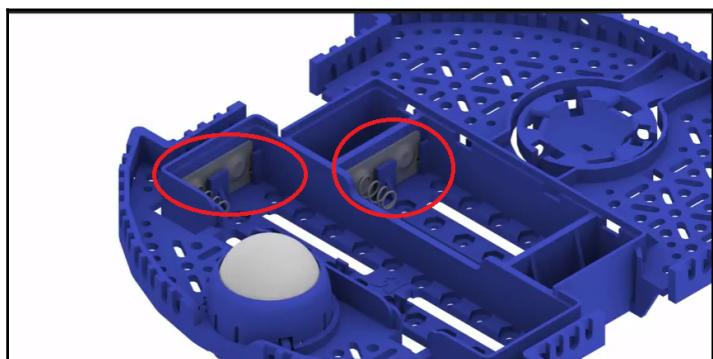

Figure 6.8: Connecting the double-sided battery contacts. Image courtesy of Pololu—<https://www.pololu.com>
1. Push the two double-sided battery contacts to the slots (*Figure 6.8*):